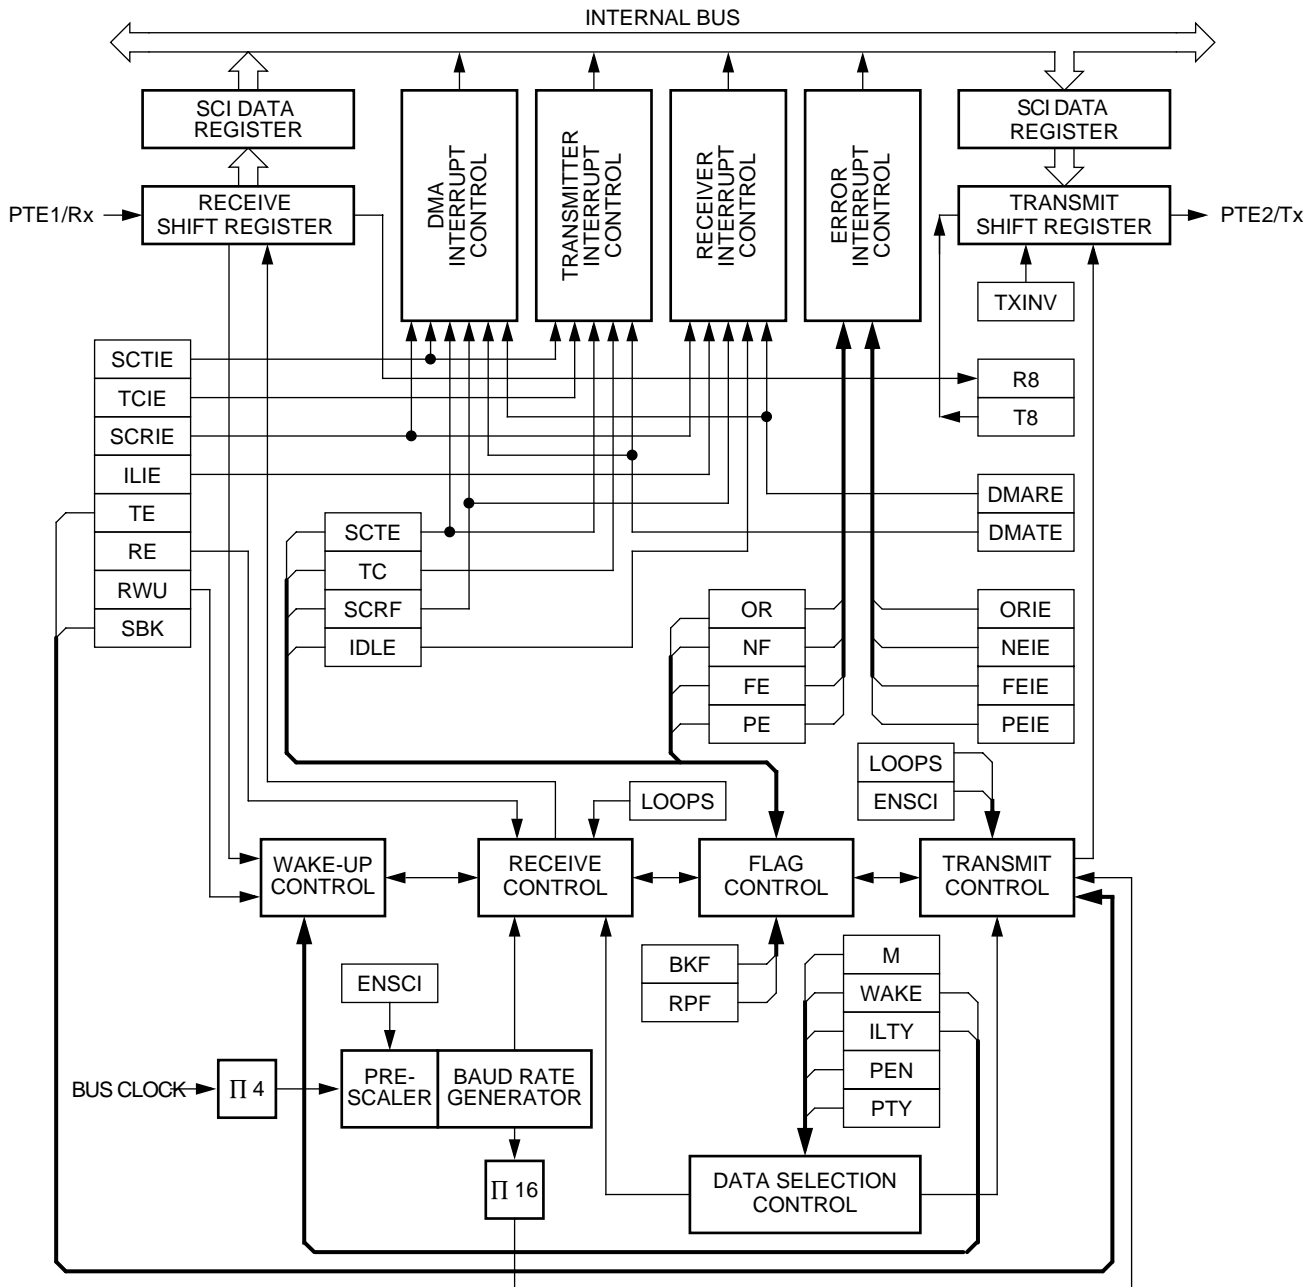

Figure 1. SCI module block diagram
**Figure 1** shows the structure of the SCI module. The SCI allows full-duplex, asynchronous, NRZ serial communication between the MCU and remote devices, including other MCUs. The transmitter and receiver of the SCI operate independently, although they use the same baud rate generator. During normal operation, the CPU monitors the status of the SCI, writes the data to be transmitted, and processes received data. During DMA transfers, the DMA fetches data from memory for the SCI to transmit and/or the DMA stores received data in memory.